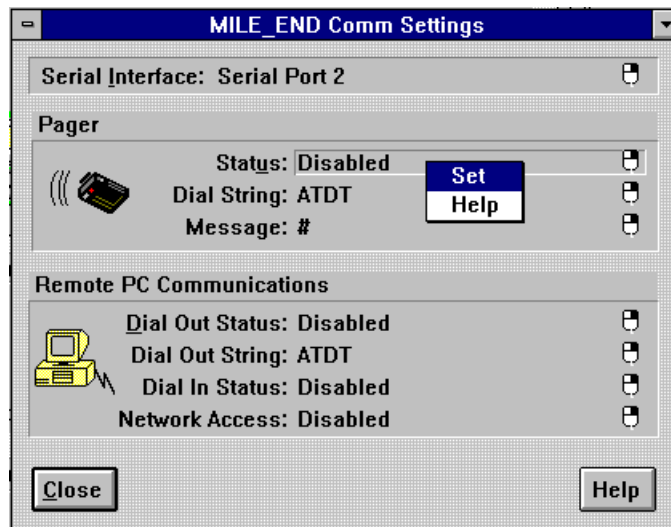

Figure 6-4. Changing Pager Status
5. Press the *Comm Setting* icon from the Recovery window. The Comm Settings window is displayed as shown in Figure 6-4. You can change the pager status in this window (for this scenario, the Status is Disabled).